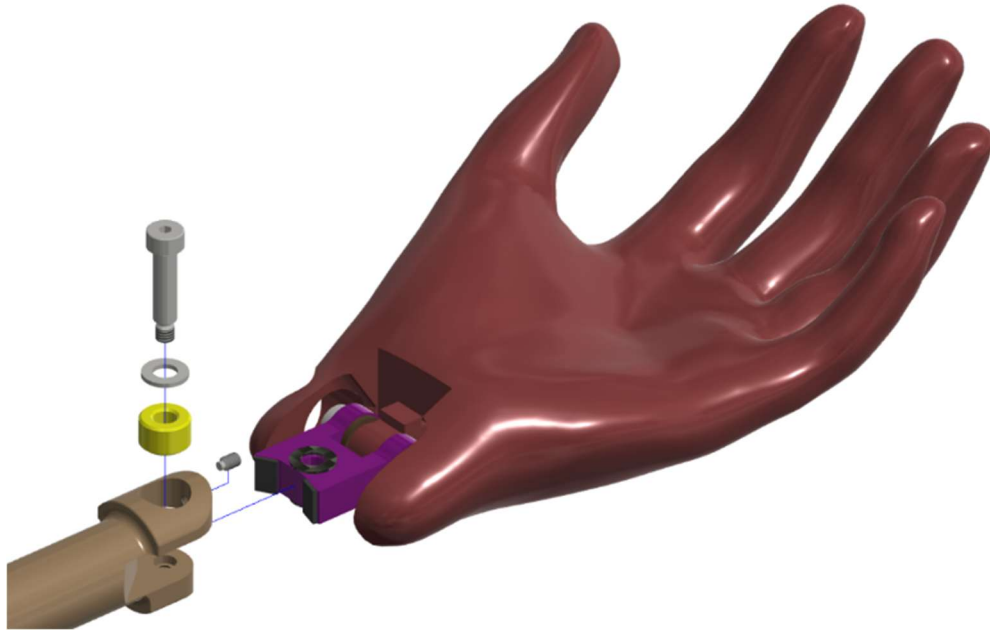

Figure 11-29. Attach hand to lower arm
- 11.3.6 Attach the hand to the lower arm with one M5 X 18 LG. SHSS SS, a M3 X 0.5 X 5 LG. SSSD, and washers (Figure 11-29).